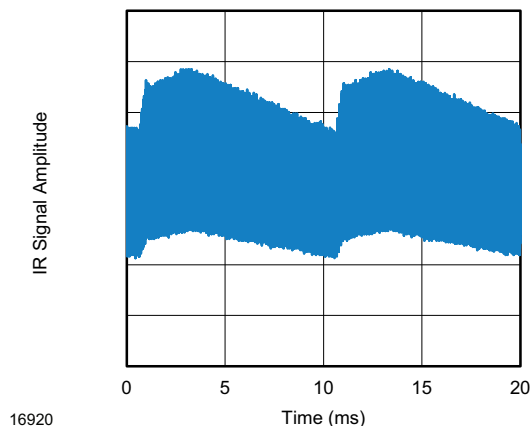

Fig. 13 - IR Disturbance from Fluorescent Lamp With Low Modulation
- Strongly or weakly modulated noise from fluorescent lamps with electronic ballasts (see Fig. 13 or Fig. 14)